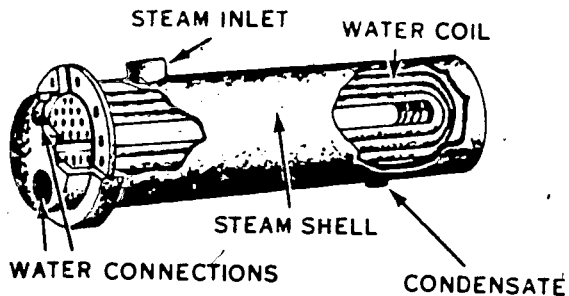

Figure 62. The instantaneous-type hot-water heater.
36. *Instantaneous type.* Instantaneous heaters are used primarily as boiler feed-water heaters; however, they are sometimes used to provide potable (drinking) water at some installations. The operation of the instantaneous-type heater is basically the same as the storage-type heater; their construction, however, is quite different. The diameter of the instantaneous heater is small in comparison to the storage-type heater. The outer shell of the instantaneous heater barely covers the tube coil, as you can see in figure 62. In some makes the water is circulated through the coil, and the steam is released in the shell and surrounds the coil. The water temperature for both types of heaters is controlled by a temperature-regulating valve.